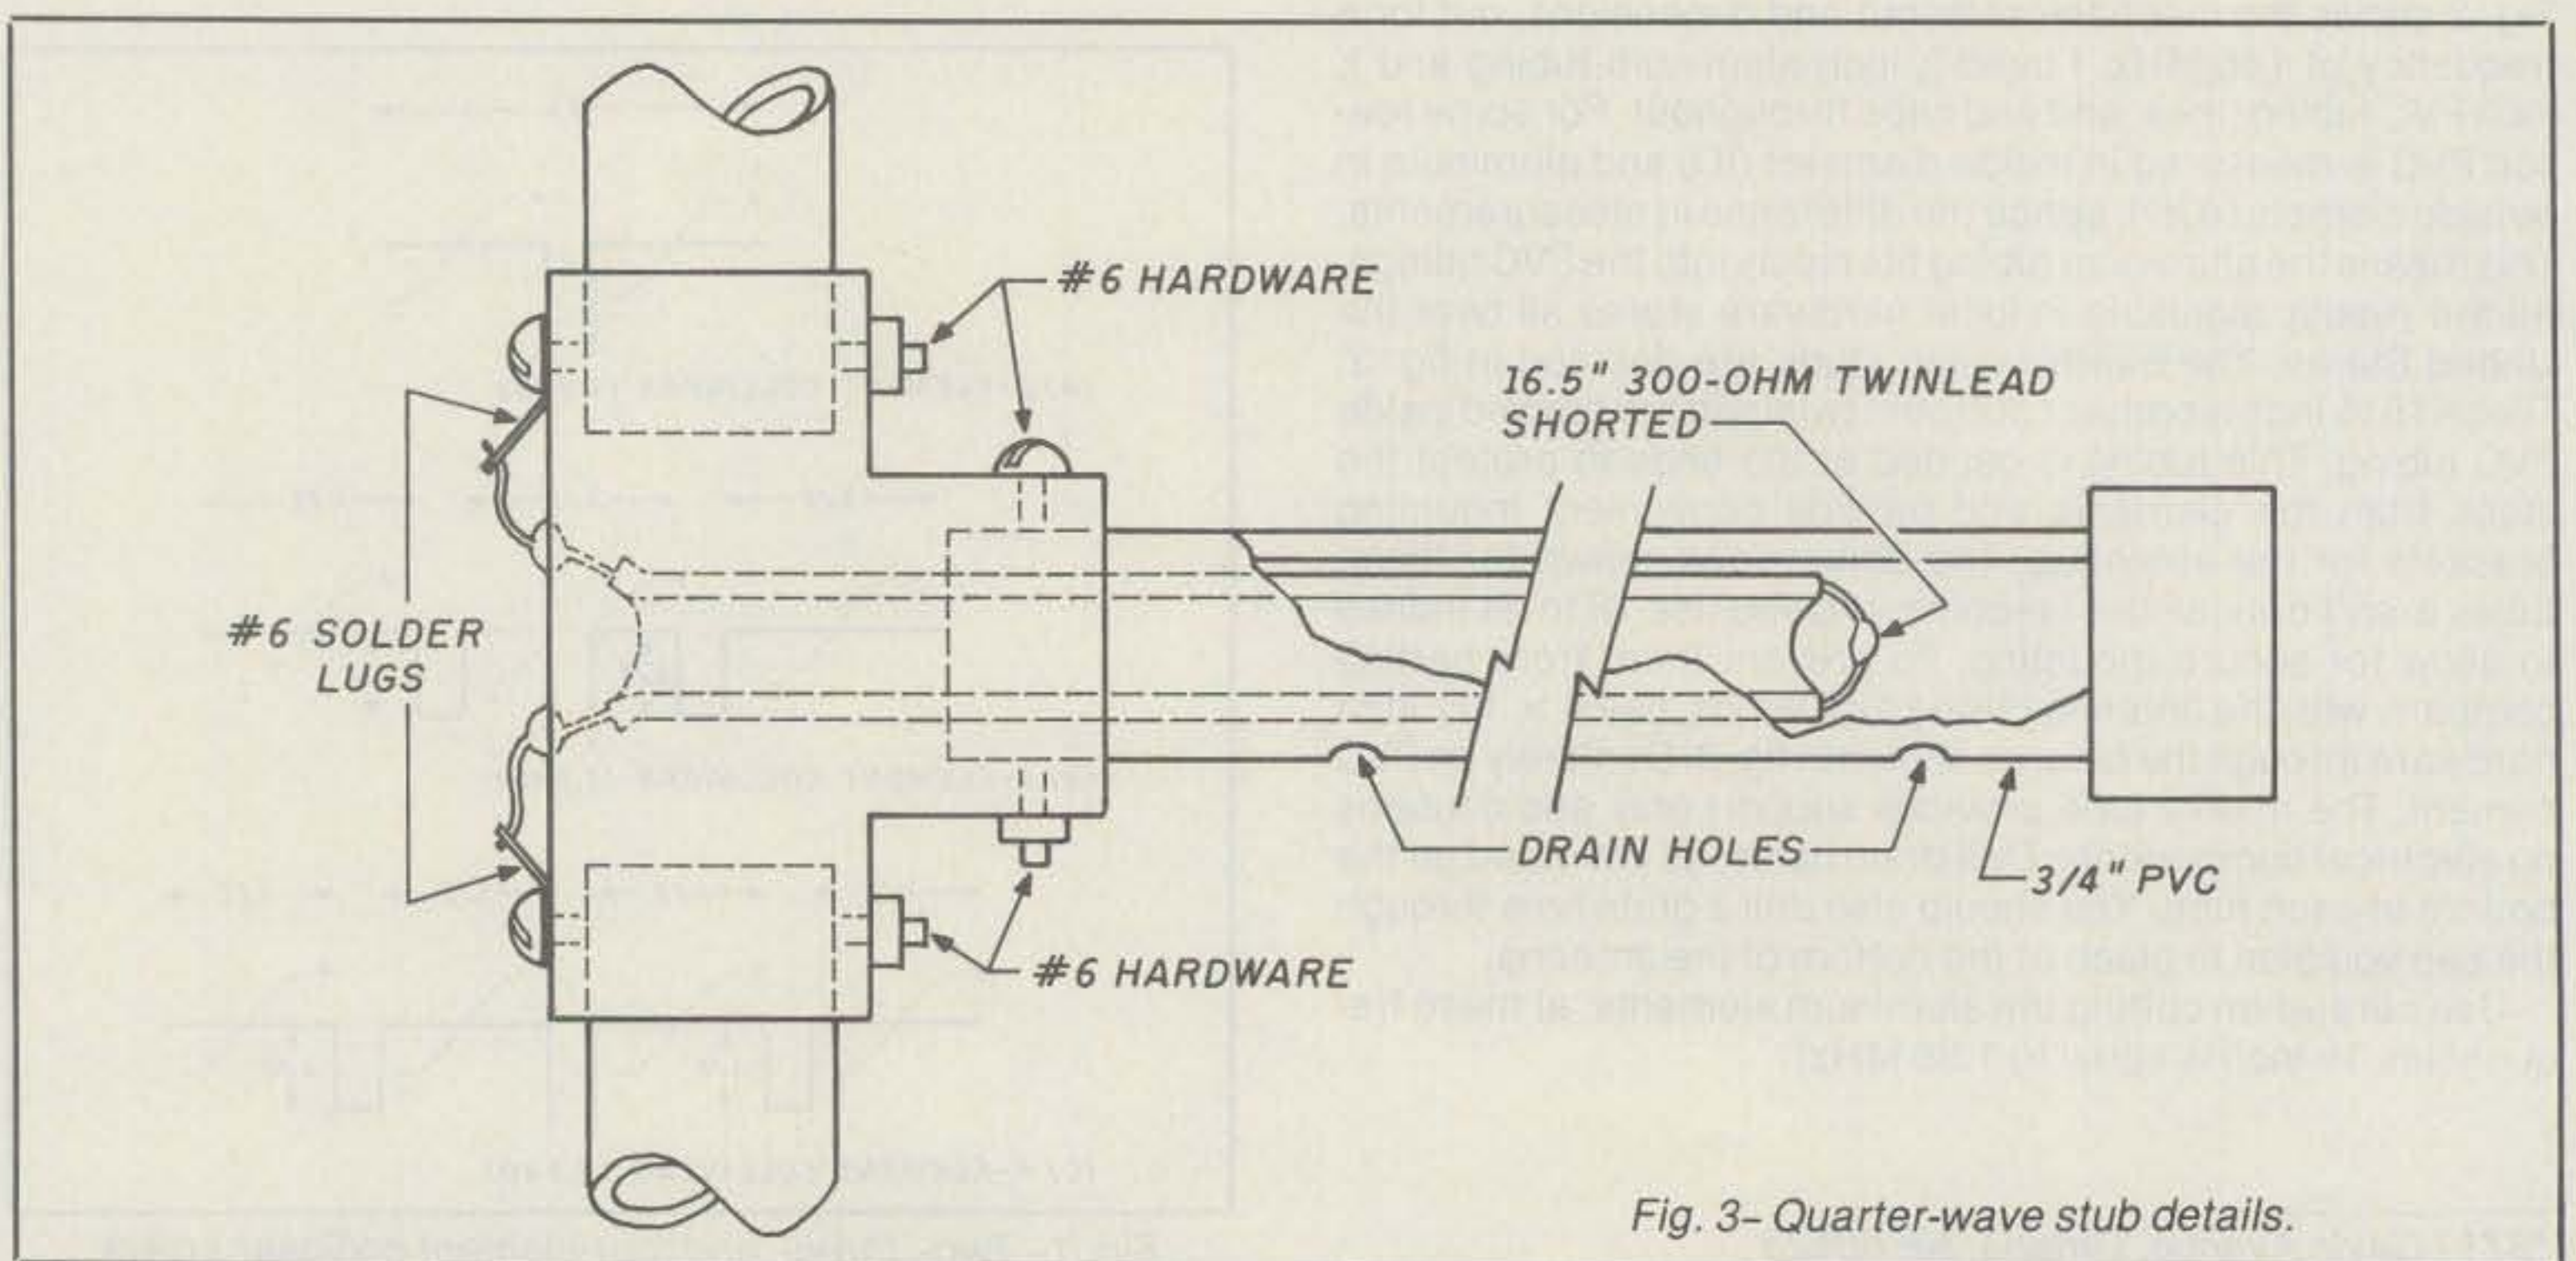

Fig. 3- Quarter-wave stub details.
Fig. 2 shows the mechanical layout and dimensions, cut for a frequency of 146 MHz. I used  $\frac{7}{8}$  inch aluminum tubing and  $\frac{3}{4}$  inch PVC tubing, tees, and end caps throughout. For some reason PVC is measured in inside diameter (ID) and aluminum in outside diameter (OD), hence the difference in measurements. This means the aluminum tubing fits nicely into the PVC fittings. All are readily available in local hardware stores all over the United States. The quarter-wave stubs are detailed in fig. 3. These 16  $\frac{1}{2}$  inch lengths of 300 ohm twinlead are housed inside PVC tubing. This tubing is capped at the ends to protect the stubs from the elements and provide convenient mounting brackets for the antennas. The dimensions shown for these tubes aren't critical, but I recommend you use 18 to 24 inches to allow for secure mounting. To prevent them from parting company with the antenna during high winds, use 6 x 1  $\frac{1}{4}$  inch hardware through the tees, as shown in fig. 3. Don't rely on PVC cement. The middle tube provides support only and contains no electrical components. Drill drain holes, as indicated, at the bottom of each tube. You should also drill a drain hole through the cap you plan to place at the bottom of the antenna.
Fig. 2- Physical dimensions of 2 meter collinear antenna. Note: Center extension is for mounting only; it may be omitted. It does NOT contain 300 ohm twin lead, as do the matching stubs (fig. 3).